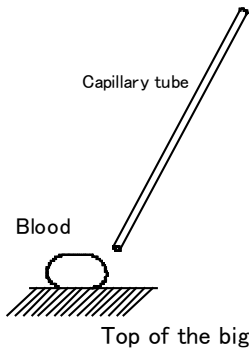

Fig. 2-1
2. Disinfect the area that has been rubbed or warmed with alcohol then puncture using a blood-taking needle. (Fig. 2-1)